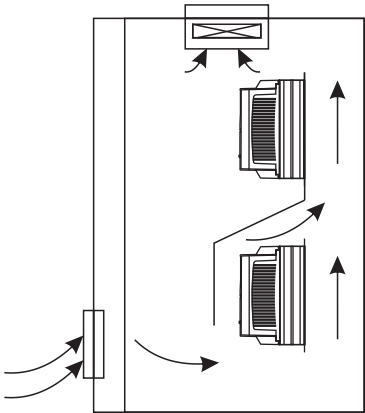

Fig. 3-2 Installation of multi inverters
Note: When the inverter is installed vertically, please mount a heat-insulated baffle shown as fig. 3-2.
- 1) The inverter should be installed vertically, which enables the heat to emit upwards easily, but it should not be mounted reversely. If many inverters need to be installed in a cabinet, you'd better install them side by side. If the inverters need the top and bottom installation, please mount a heat-insulated baffle shown as fig. 3-2.